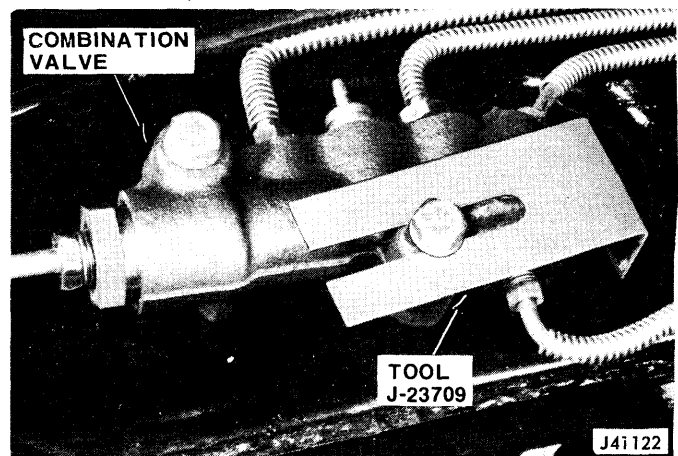

Fig. 9-11 Metering Valve Tool Installed—Cherokee-Wagoneer-Truck
When bleeding the brake system, the metering section of the valve must be held open (fig. 9-11). Refer to Brake System Bleeding for procedure.
- (1) Clean any accumulated dirt from master cylinder cover.
- (2) Remove master cylinder cover.
- (3) Fill master cylinder if required and reinstall cover.
- (4) On Cherokee, Wagoneer, and Truck models, hold combination metering valve open as follows: loosen front mounting bolt on combination valve and insert slotted end of Tool J-23709 under mounting bolt. Push in on metering valve stem to open it and retighten mounting bolt to hold Tool J-23709 in place (fig. 9-11).
- (5) On Cherokee, Wagoneer, and Truck models, hold metering valve section open. Install Tool J-23709 as described in step (4) of Manual Bleeding Procedure (fig. 9-11).